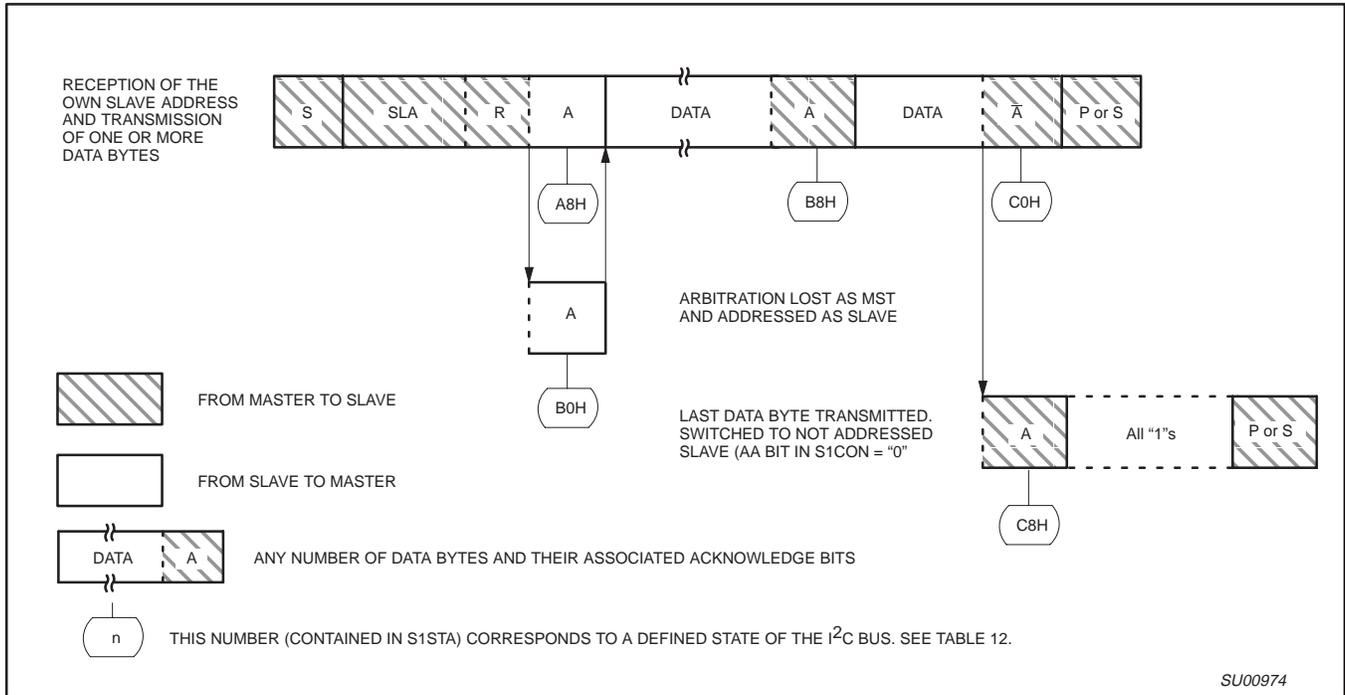

Figure 31. Format and States of the Slave Transmitter Mode
**Slave Transmitter Mode:** In the slave transmitter mode, a number of data bytes are transmitted to a master receiver (see Figure 31). Data transfer is initialized as in the slave receiver mode. When S1ADR and S1CON have been initialized, I2C waits until it is addressed by its own slave address followed by the data direction bit which must be logic 1 (R) for the I2C to operate in the slave transmitter mode. After its own slave address and the R bit have been received, the serial interrupt flag (SI) is set and a valid status code can be read from S1STA. This status code is used to vector to an interrupt service routine, and the appropriate action to be taken for each of these status codes is detailed in Table 12. The slave transmitter mode may also be entered if arbitration is lost while I2C is in the master mode (see state B0H).